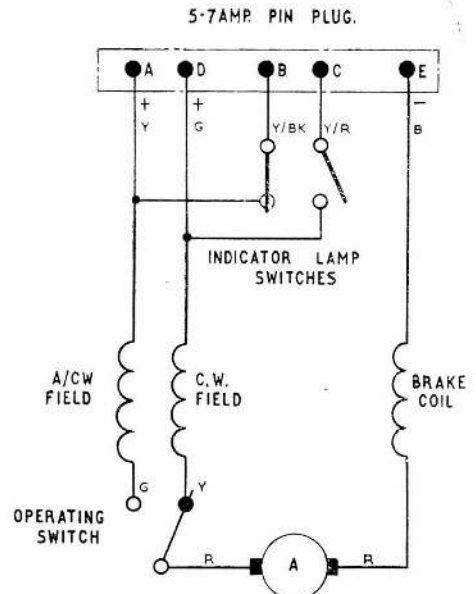

Fig. 1. Circuit Diagram
- (1) No adapter housing or visual indicator is fitted.
- (2) The output shaft has a travel of 90 deg., and a tongue drive.
- (3) There are two warning light switches as shown in fig. 1, which operate 8 to 10 deg. before end of travel.